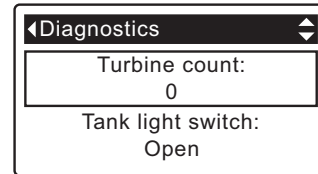

FIG. 93
2. Press the DOWN (▼) button to scroll through the list until **Turbine Count** is displayed (See Figure 93).